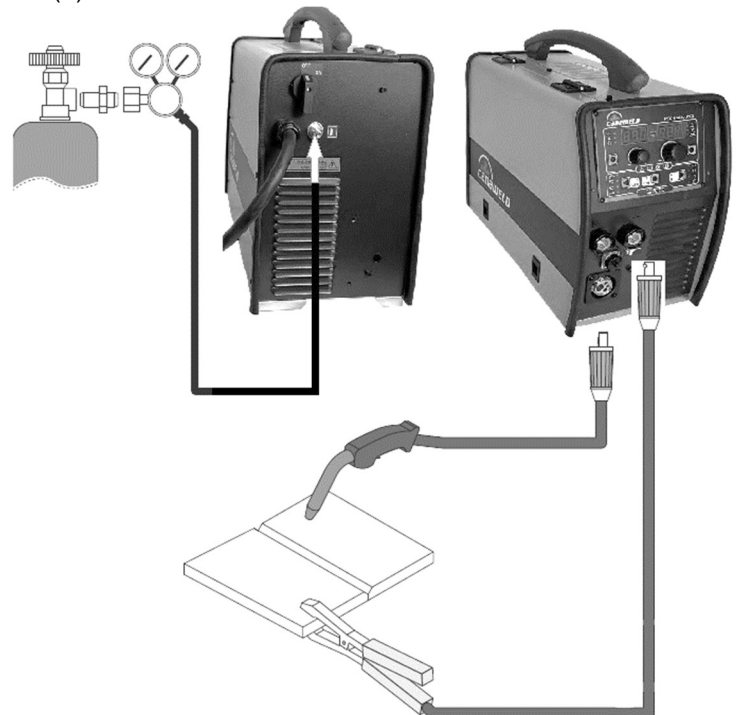

Fig. C1
1. Connecting the cables (Fig. C1-C2)